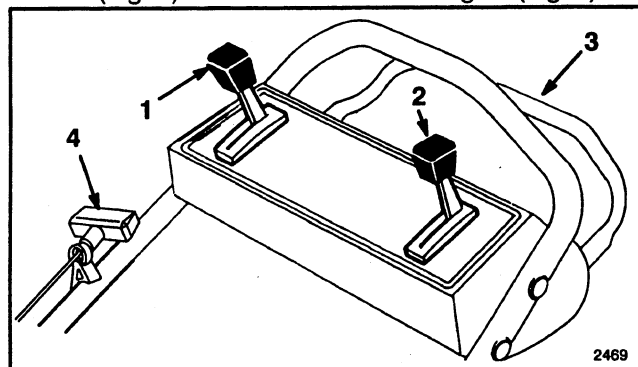
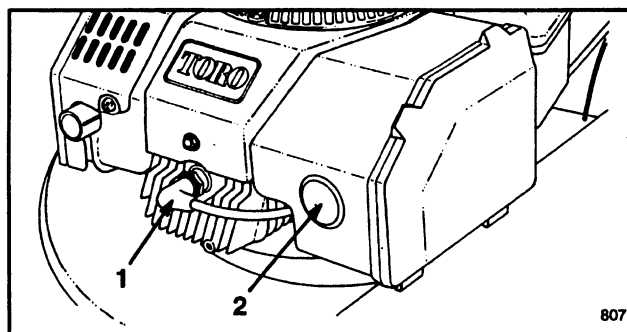

Figure 7
Figure 8
CONTROLS—Throttle, ground speed control, recoil starter and self-propelled control bar are on upper handle (Fig. 7). Primer is on front of engine (Fig. 8).
- 1. Push spark plug wire onto spark plug (Fig. 8).
- 2. Move ground speed control to "N" (Fig. 7).
- 3. Cover hole in center of primer (Fig. 8) with thumb and push two times.
5. TRACTION OPERATION (Fig. 7)—Ground speed varies, depending on space between control bar and handle. Move ground speed control to desired setting. Number “1” is slow, “2” is medium, and “3” is a fast walking pace. Move ground speed control to “N” when using the mower for trimming and whenever leaving the mower.
6. STOPPING—Move ground speed control to “N”. Release control bar (Fig. 7) to stop traction drive and engine. Pull wire off spark plug if mower will be unattended or not used.
1. Stop the engine and wait for all moving parts to stop. Pull wire off spark plug (Fig. 8).